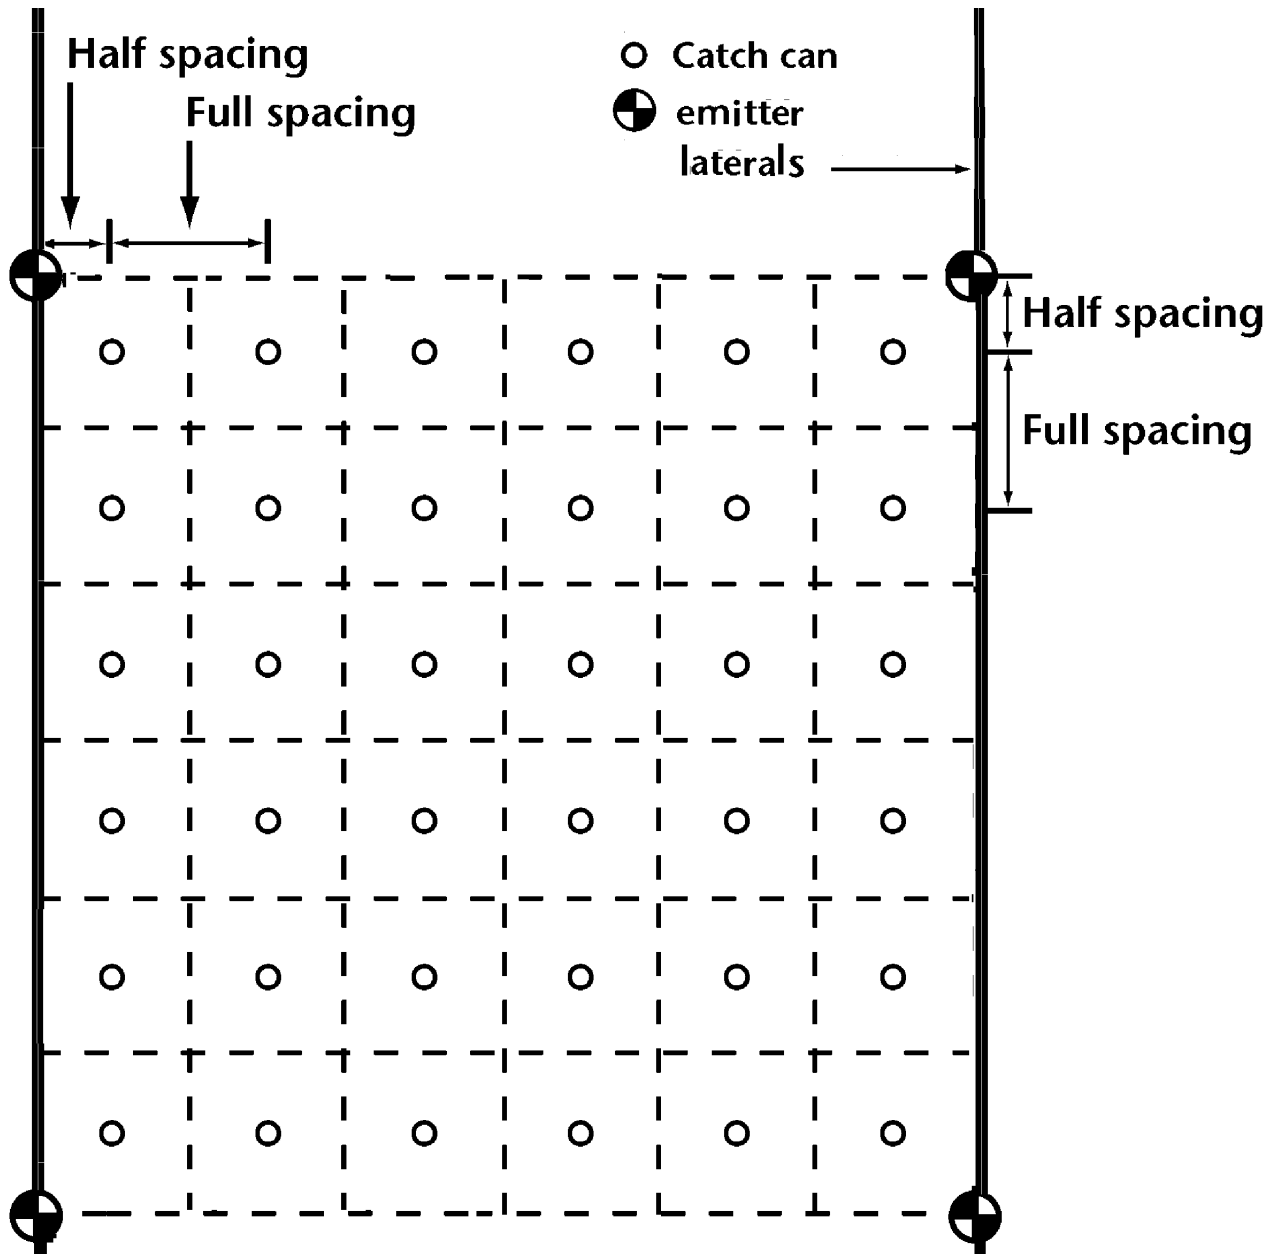
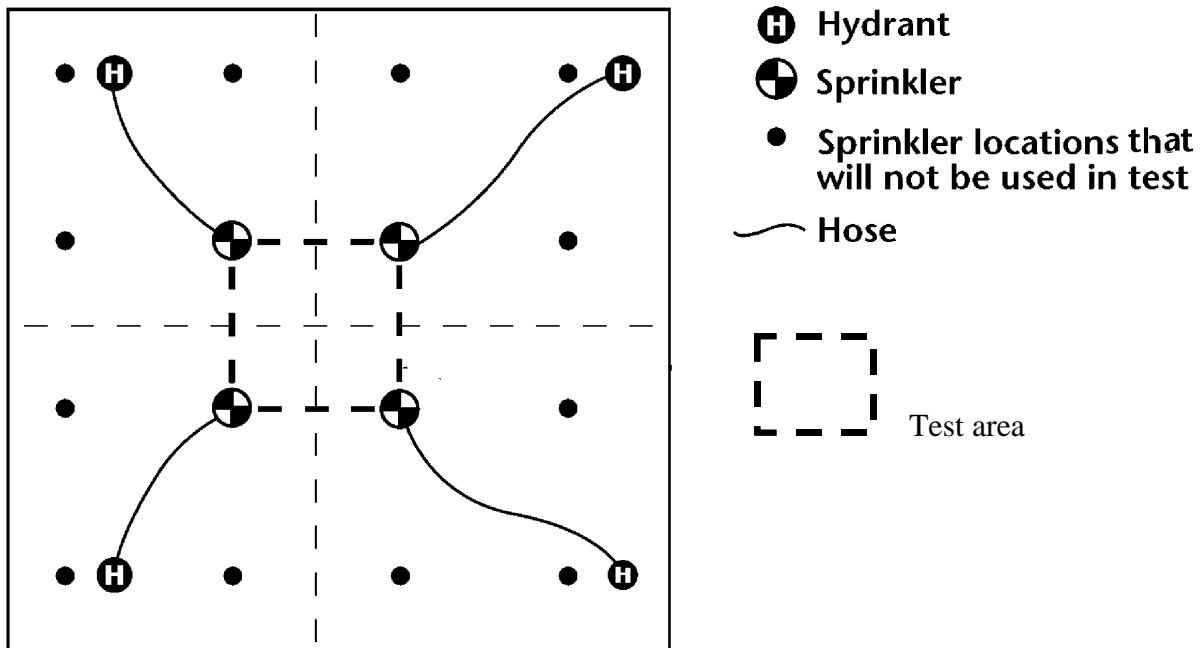

Figure 3: Typical catch can layout
Figure 4: Layout for a bike shift system
Step 2 Place the catch cans in a grid pattern (Figure 3). Use a tape measure to make sure they are the correct distance apart. Typical spacings are 3 metres however your catch can spacing will depend upon your system.
Choose four sprinklers along two laterals for the test (Figure 3), or four adjoining sprinklers (Figure 4) to create a grid for catch can layout.